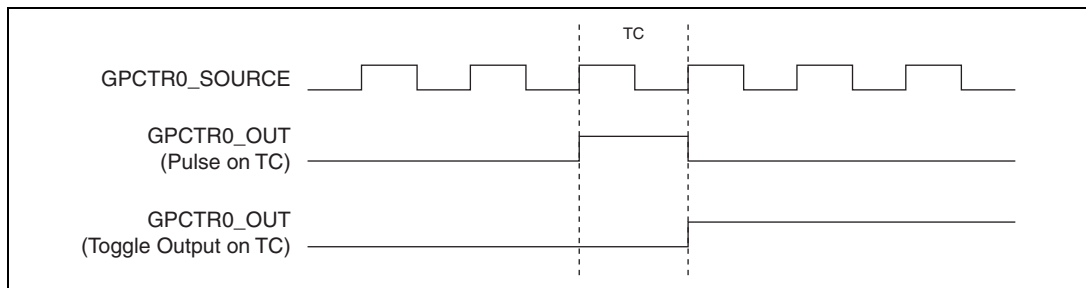

Figure 4-34. GPCTR0_OUT Signal Timing
This signal is only available as an output on the GPCTR0_OUT pin. The GPCTR0_OUT signal reflects the terminal count (TC) of general-purpose counter 0. You have two software-selectable output options—pulse on TC and toggle output polarity on TC. The output polarity is software-selectable for both options. This output is set to high-impedance at startup. Figure 4-34 shows the timing of GPCTR0_OUT.